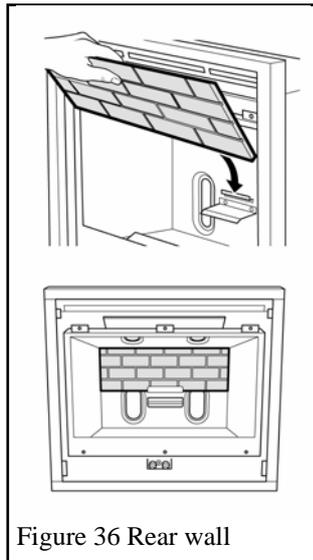

Figure 36 Rear wall
1. Locate the ceramic rear wall in the channel at back of the firebox and flat against the back of the firebox. See figure 36.